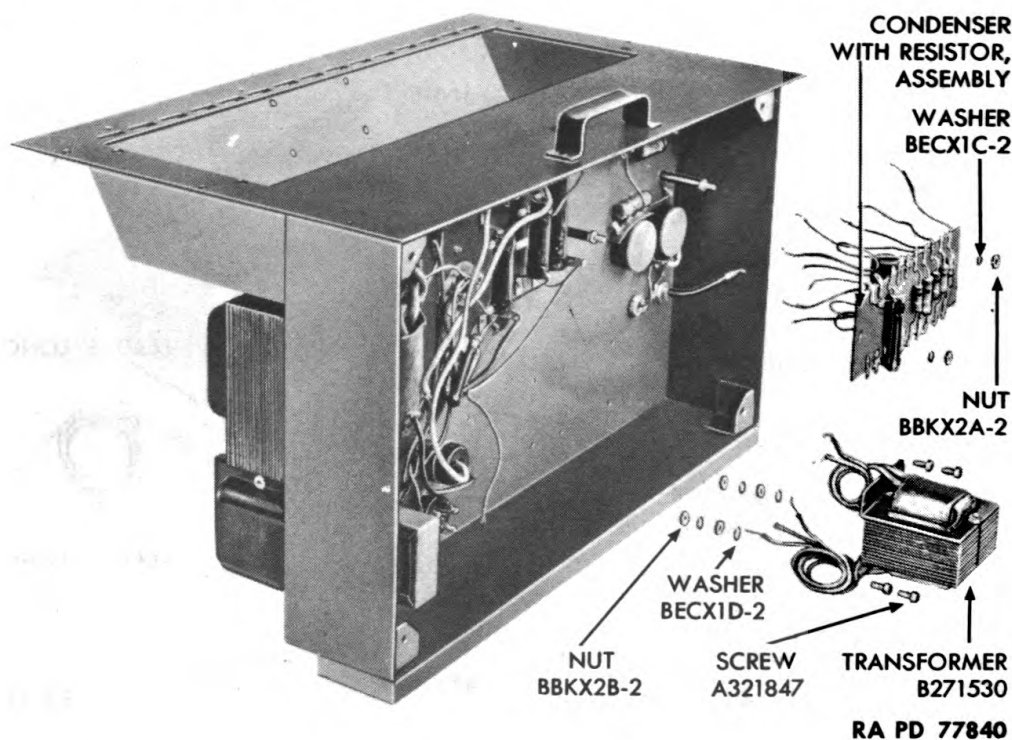

Figure 15 — Removal of Condenser With Resistor and Driver Transformer From Amplifier
(11) Unsolder all connecting leads to the condenser and resistor assembly (fig. 15) and the transformer B271530. Remove the two hexagonal nuts and lock washers from the screws to remove the condenser and resistor assembly. Unscrew the four hexagonal nuts from the screws, fastening the transformer to the chassis.